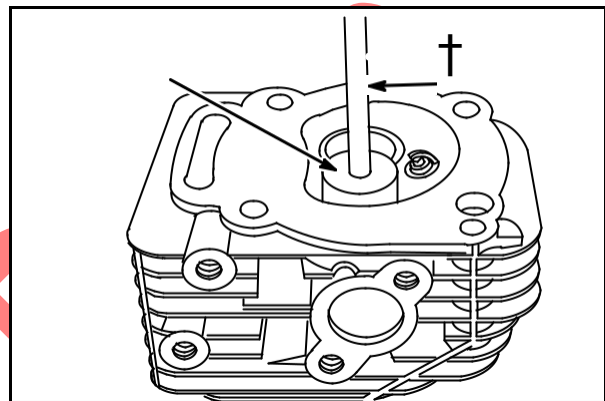

Fig. 13
Use Reamer Pilot Guide #19345 (5) and Finish Reamer #19444 (6) to ream new valve guide, Fig. 13.